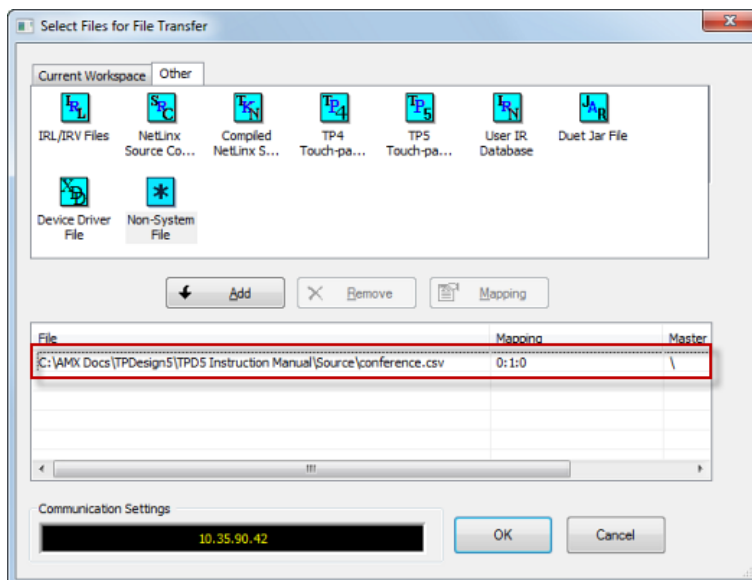

FIG. 162 NetLinX Studio5 - Select Files for File Transfer dialog indicating a CSV file for transfer
6. In the *Select Files For File Transfer* dialog, the selected file and it's device information are indicated in the *Files* list (FIG. 162):